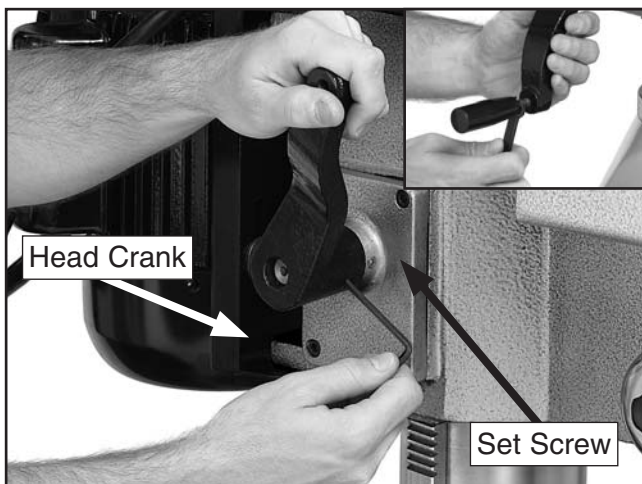

Figure 11. Head crank.
2. Slide the head crank onto the shaft, then tighten the set screw to secure it in place (**Figure 11**).